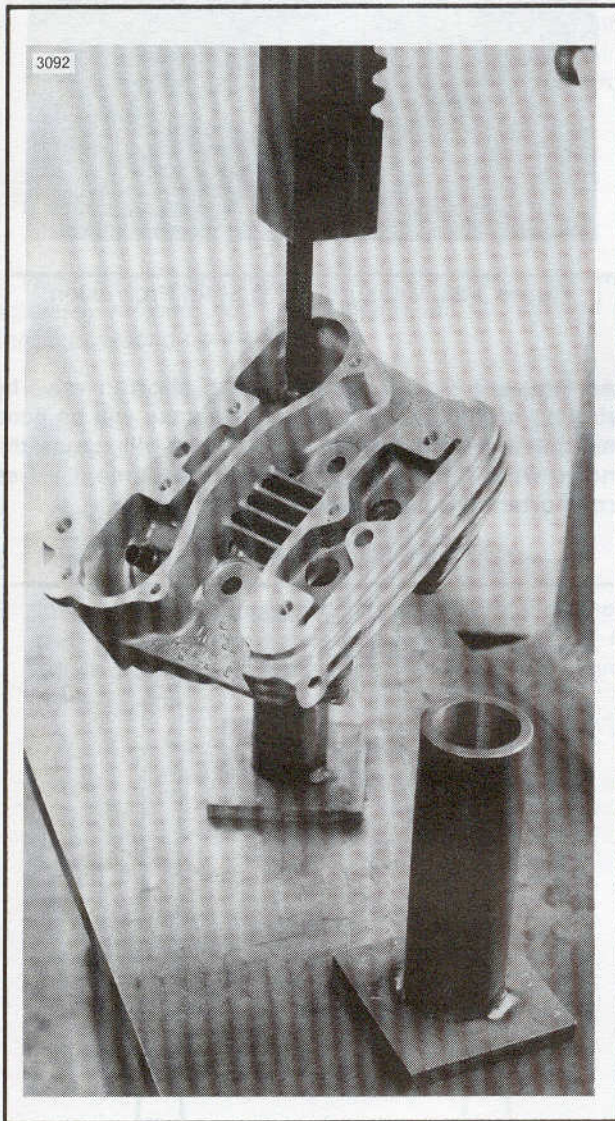

Figure 3-23. Install Valve Guide
3. See Figure 3-23. Install shoulder-less guides using VALVE GUIDE INSTALLATION TOOL, Part No. HD-34731 and DRIVER HANDLE, Part No. HD-34740. Lube and press guide until the tool touches the machined surface surrounding the guide. At this point, you have reached the correct guide height.